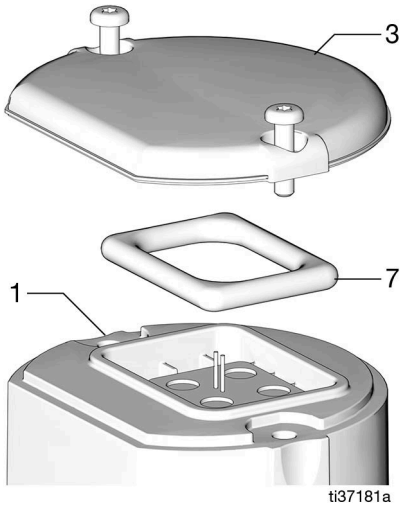

FIG. 12
5. Remove seal (7) from housing (1), if necessary. Make sure that the seal is installed onto cover (3). Apply a thin film of oil or grease to the seal to lubricate for installation (FIG. 12).